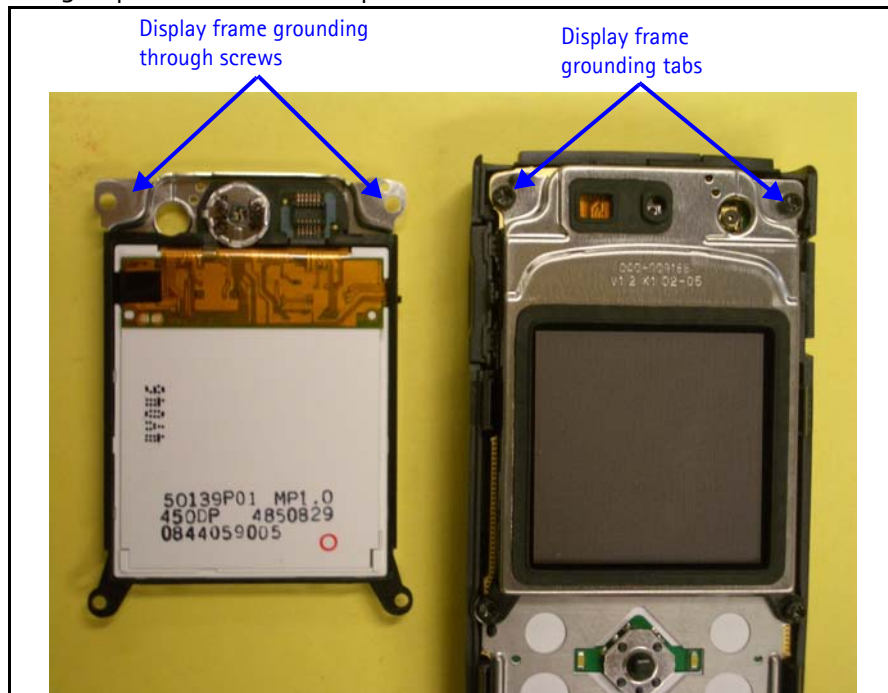

Figure 6: Display assembly ground points
- If the screws are missing, install new ones. Figure 6 shows the contact between the display frame ground clips and the PWB in greater detail.